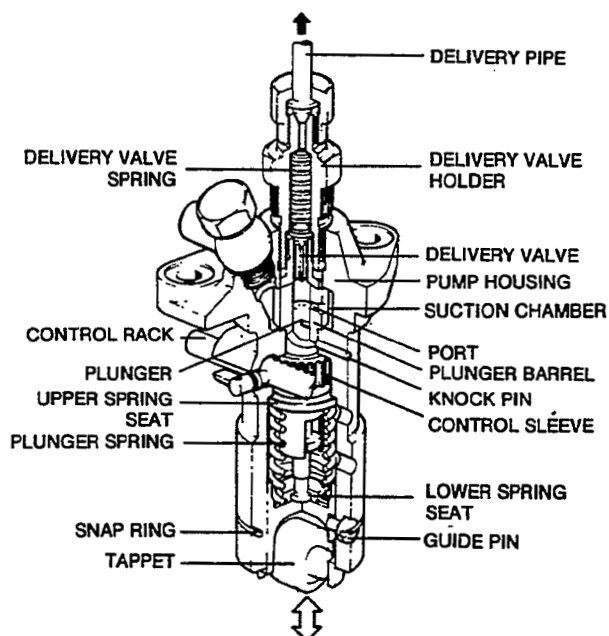

FIGURE 65a. SINGLE INJECTION PUMP ASSEMBLY
1. Remove one high pressure line (both ends), and the corresponding delivery valve holder, spring, volume reducer, and delivery valve, Figure 65a. Leave gasket and seat in pump.